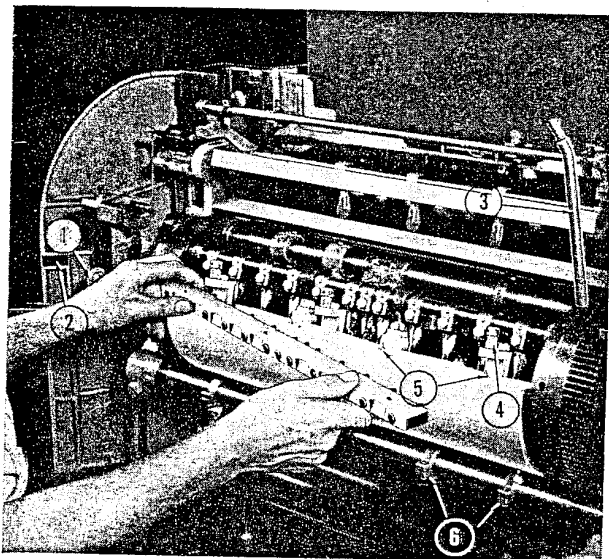
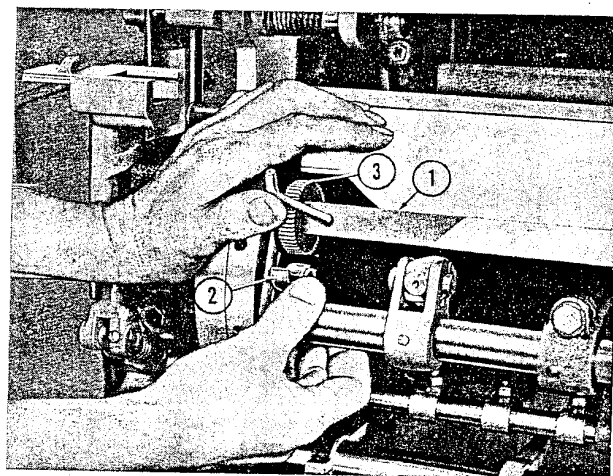

Figure 25—Removing Cylinder Packing
Figure 26—Tightening Cylinder Packing
(a) Run the press until the cylinder is approximately 1" below top center and the cylinder is on the down stroke. At this point the cylinder ratchet pawl lock collar spring pin (1) should be in line with the red alignment mark (2) on the cylinder end guard. (See figure 25).
(b) Open left cylinder end guard by lifting guard slightly and swinging it out. Pull out spring pin, (1) figure 25, thereby disengaging cylinder and permitting it to be revolved manually. *Do not turn press by hand when cylinder is disengaged.*
(c) Using large pin wrench, (3) figure 25, turn cylinder until it is in the position shown in figure 26.
(d) Using small pin wrench, turn reel rod (1) slightly until pawl (2) can be released from reel rod ratchet (3). (See figure 26.) Release draw sheet from reel rod.
(e) Turn cylinder until gripper bar is facing forward, loosen gripper bar clamp screws, (4) figure 25, using small pin wrench, permitting gripper bar to be removed from the cylinder (see figure 25.) The packing sheets can now be removed from the pins, (5) figure 25, which secure the sheets to the cylinder.
(h) Turn cylinder, at the same time smoothing out packing, until the reel rod (1) is in position shown in figure 26. Tuck top draw sheet under reel rod, fold and tighten packing by turning reel rod with small pin wrench and then engage reel rod ratchet pawl in ratchet. (See figure 26.)
—The five cylinder bands attached to the cylinder band tube (see (6) figure 25) serve to prevent sheets from contacting rollers. The band sockets can be moved along the tube and should be spaced so that the bands are positioned in blank margins.